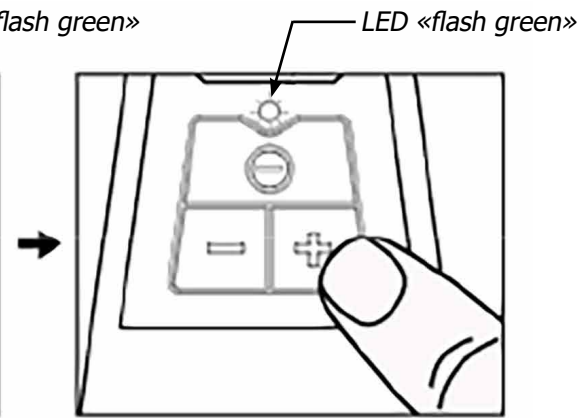

Figure 3
3. Adjust the speed by pressing " + " or " - " buttons on the button plate. Press " + " is to raise up to higher speed setting, " - " is to lower the speed setting. - see figure 3.